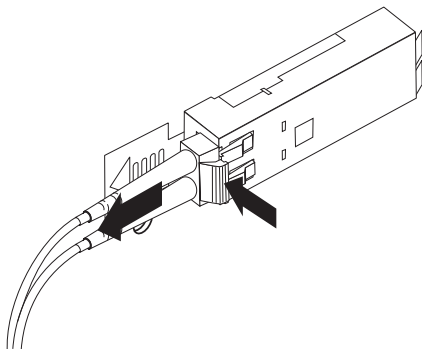

Figure 36. Removing the LC-LC Fibre Channel cable
2. Carefully pull on the connector to remove the cable from the SFP module, as shown in Figure 36.